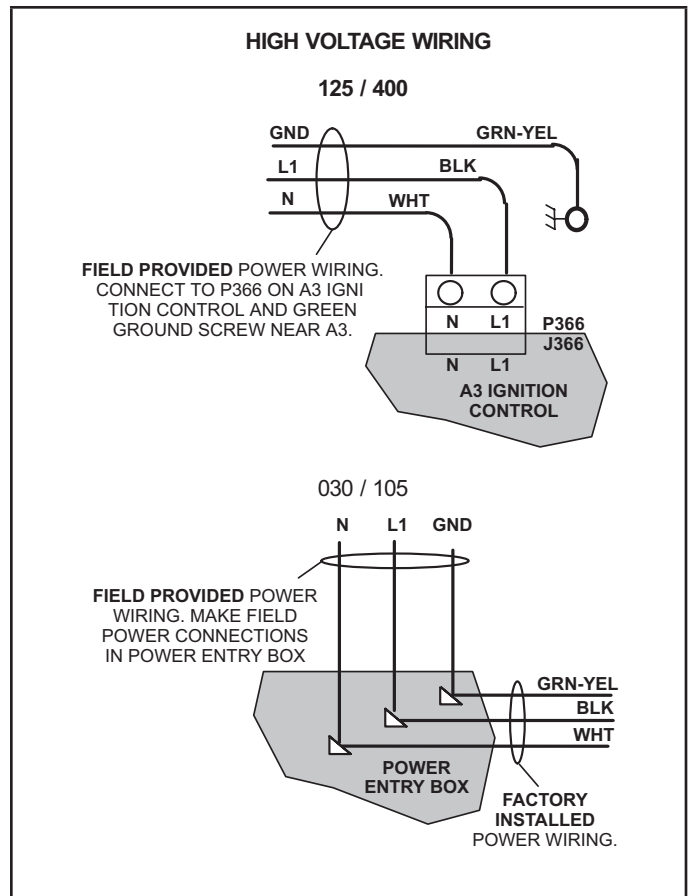

FIGURE 13
- 2 - Make line voltage connections as shown in figure 13. Connect wires to 2-pin P366 plug located on the A3 ignition control board. For ease of installation, disconnect P366 plug from J366, make wire connections, and replace P366. Refer to wiring diagram on unit and the appropriate typical diagram in this manual.